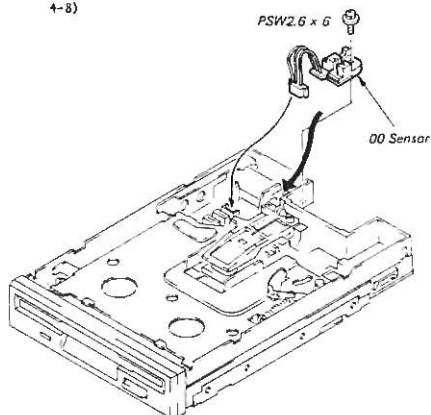

Fig. 4-8 00 Sensor Replacement
- Remove the screw (PSW2.6x5) securing the 00 Sensor and remove 00 Sensor. (Refer to Fig. 4-8)